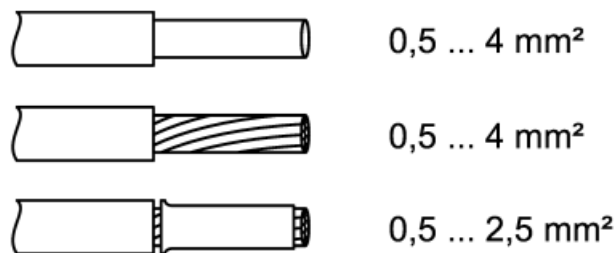

Figure 5: Clampable cable cross-sections
- Clampable cable cross-sections (see Figure 5)